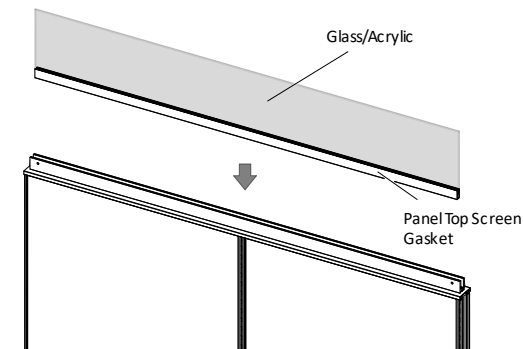

Figure 3
4. Insert the glass/acrylic with Panel Top Screen Gasket into the Frameless Glazed Extrusion, (Figure 3).